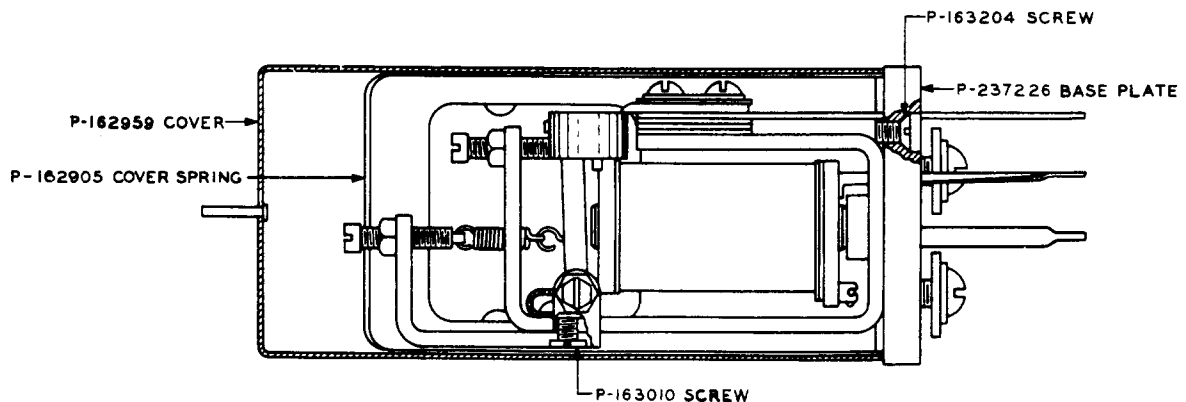

Fig. 1 - 213-type Relay (For Other Parts See Fig. 2)
1. To revise piece-part data on Figs. 1 and 2.